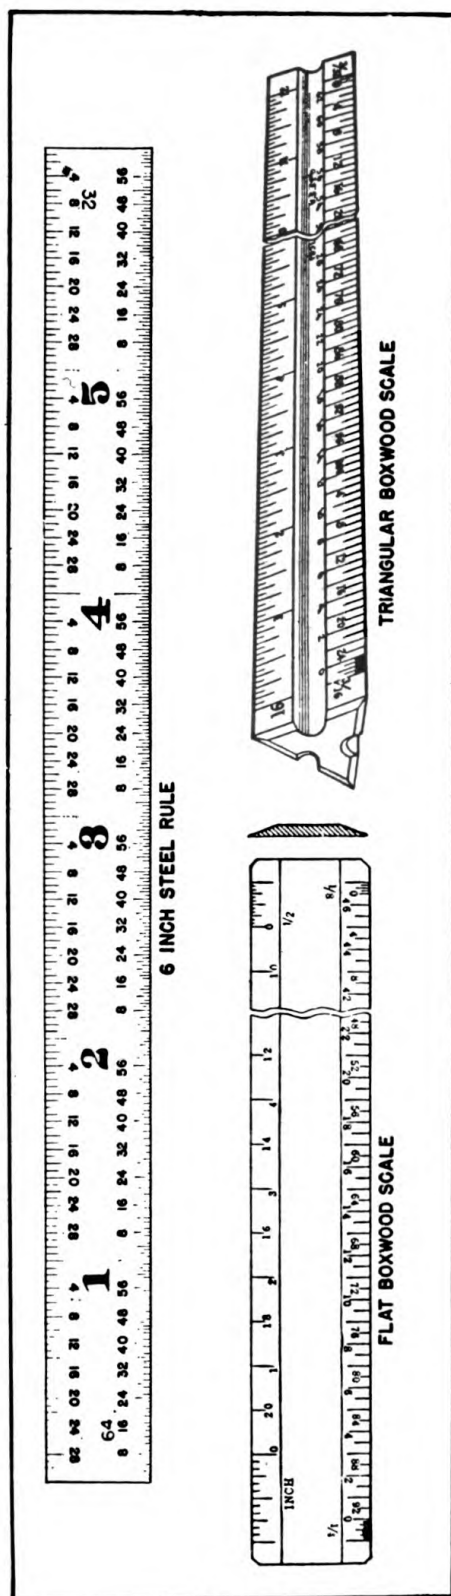

FIGURE 78.—Six-inch steel rule and scales.
23. Rules and scales.—*a. General.*—Rules are graduated measuring instruments usually made of metal or wood. Flexible steel rules are the most commonly used in automotive work. The graduations indicate inches and fractions of an inch (or centimeters and millimeters). Figure 78 shows the common 6-inch machinist's steel rule, graduated in 32nds and 64ths of an inch, and two types of scales used in the drawing room for laying out distances and dimensions. Although similar to rules in appearance, scales are graduated to indicate proportional rather than actual measurements; as, for example, for laying out work to a scale of $\frac{1}{4}$ inch to the foot.